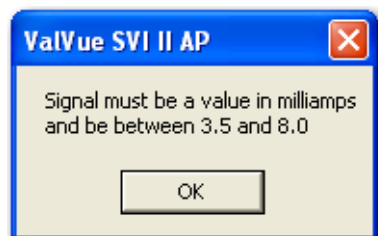

Figure 98 Low Signal Calibration Warning
*Enter a low signal value outside the 3.5 to 8.0 range and Figure 98 appears. Click **OK** and re-enter the value.*
*If you enter a low signal value outside the range of 16.0 to 21.0 mA, ValVue issues a warning (Figure 98). Click **OK** to continue and re-enter a value.*